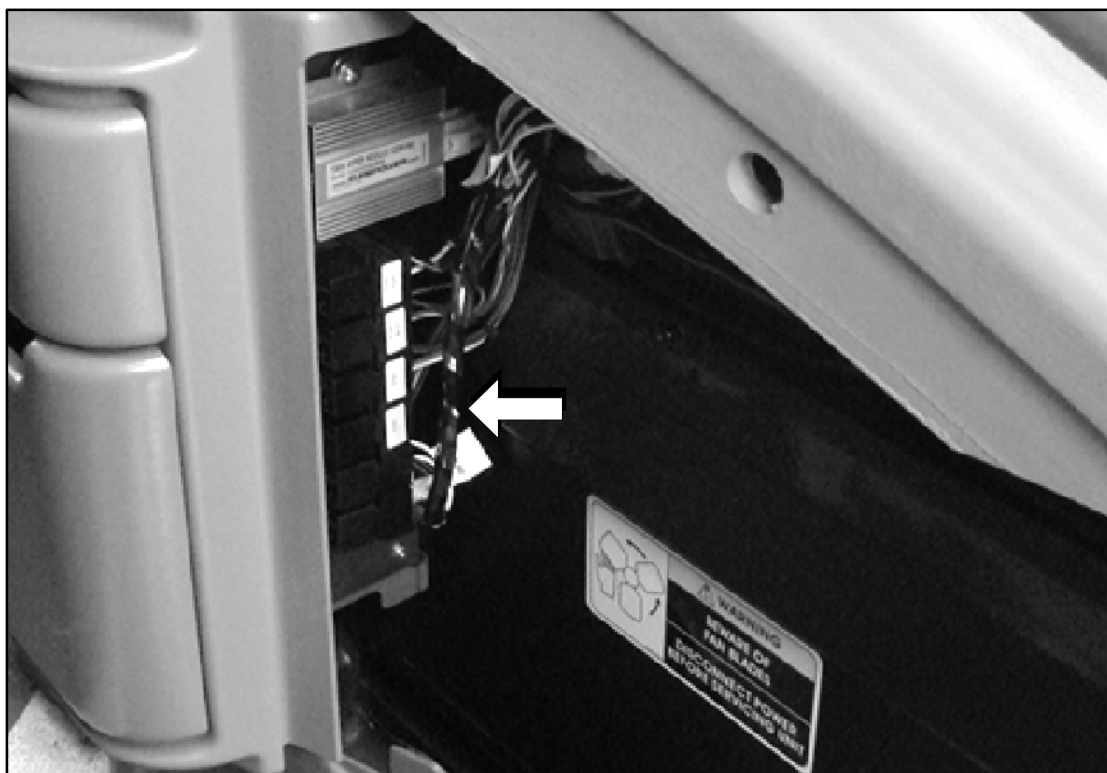

Figure 20.
61. Above the cabin entrance stepwell, release the six (6) fasteners and remove the return air access panel. Remove the return air panel (refer to Figure 20).
62. Locate wires WM5AAA and WM6AA on Pin H and K of Plug 145A on the existing wiper control adapter harness (utilized with the model 259 motor) (refer to Figure 20). Using wire cutters, cut off the end of wire WM5AAA connected on the splice. Cover the exposed end of the wire splice with electrical tape. Using wire strippers, expose 0.50 inch of wire on wires WM5AAA and WM6AA. Slide the heatshrink, p/n 19-11-1465, and solder splice, p/n 19-11-1466 over wire WM5AAA. Align the exposed wire ends of WM5AAA and WM6AA. Crimp in the center to secure. Solder the wires together using p/n 21-8207-7. Cover the solder joint with the heatshrink, and apply heat.
63. Re-install the return air panel (refer to Figure 20).